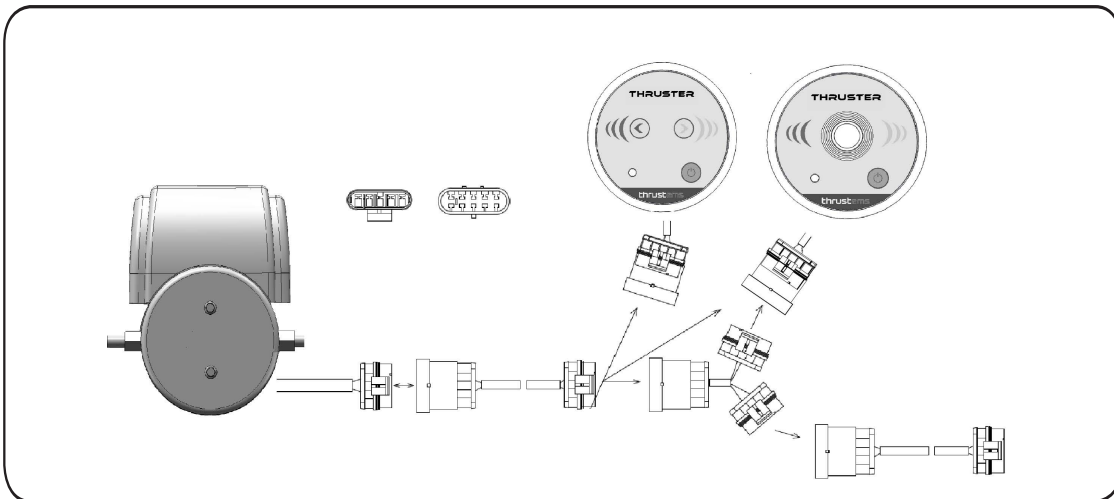

Figure 17
- Use the thruster panel splitter cables when connecting two or more panels in parallel (Figure 17 and 18).
- Any number of ThrustEMS panels can be connected in parallel (Figure 17 and 18).